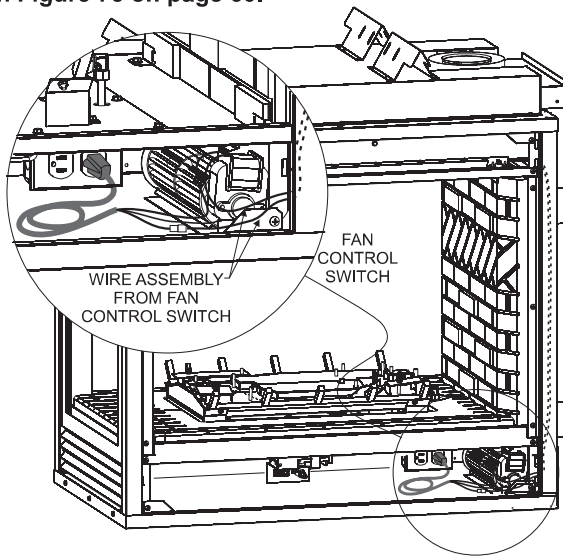

Figure 71
To install the blower kit or access the junction box, remove lower louver as illustrated by **Figure 71**.
4. Insert blower assembly into interior, bottom of fireplace. Note: On peninsula models, the blower must be installed at the end which has the brick panel installed. Position blower assembly so that you align the notch on back of blower assembly with the center screw on side/end panel, then push the blower assembly against fireplace outer panel. The blower wheel must be centered with the side/end wall of the fireplace. The magnets on the back and bottom of blower assembly will sufficiently hold blower assembly in place. **See Figure 71.**
6. Next, find the fan control wire assembly. Feed the wires over the top of the firebox. The fan control wires will slide down between the firebox and outer wrap near the blower assembly. **See Figure 71. Attach the two 3/16" wire terminals to the fan control switch as shown in Figure 72. Attach the wire terminals at the blower as shown by letters "A" and "B" in Figure 75 on page 60.**